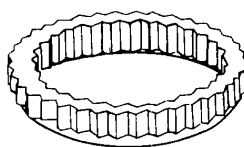

Figure 2-74. Lockring
**2-15. Lockring Fastener.** The locking, as shown in figure 2-74, is an accessory part used as an anti-rotation device for screw thread inserts, studs, and many other externally threaded fastening devices. It is serrated both internally and externally. The internal serrations are configured to mesh with those on the insert flange. The external serrations are relieved on the entering side so as to form a pilot to permit initial engagement internally. In addition, there is a 10-degree rake angle on the external serration so that the effect of a broach is duplicated when the ring is pressed or driven into the counterbored region in the receiving material. The crest of the serrations cuts a series of longitudinal grooves, thus creating a composite shear area for resistance to rotation, as shown in figure 2-75.